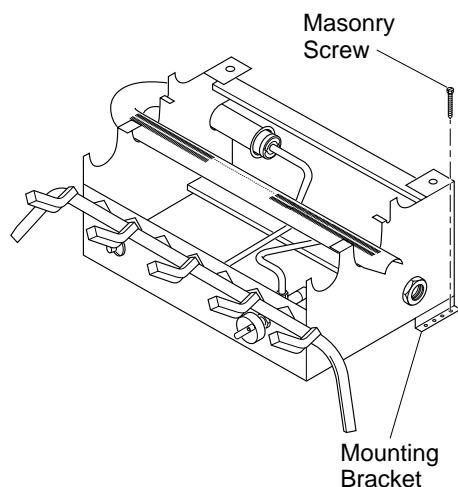

Figure 12 - Attaching Base Assembly to Fireplace Floor
4. Mark screw locations through holes in mounting brackets (see Figure 12, page 11). If installing in a brick-bottom fireplace, mark screw locations in mortar joint of bricks.
7. Attach base assembly to fireplace floor using two masonry screws (in hardware package) (see Figure 12).